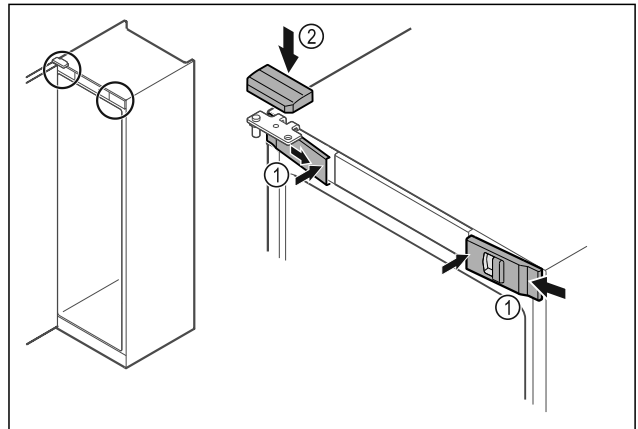

Fig. 52
- Hook in the front covers Fig. 52 (1) on the side and snap them into place on the inside.
- Snap on the top cover Fig. 52 (2) from above.